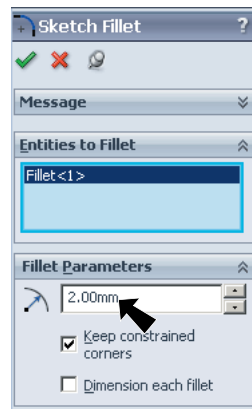

Fig. 6
Step 5. Click Zoom to Fit  (F) on the View toolbar.
Step 1. Click **Sketch Fillet**  (S) on the Sketch toolbar.
Step 2. Set the **Radius**  to **2** in the Sketch Fillet Property Manager, **Fig. 6**.